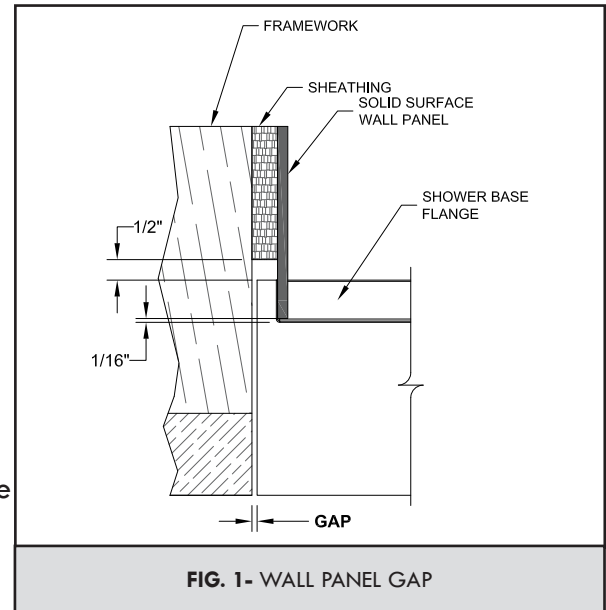

FIG. 1 - WALL PANEL GAP
4. Measure the height of the sidewall that the plumbing products will be located and cut the side panel to fit the wall, leaving a 1/16" gap between the bottom of the panel and the top of the shower pan flange (**SEE FIG. 1**).